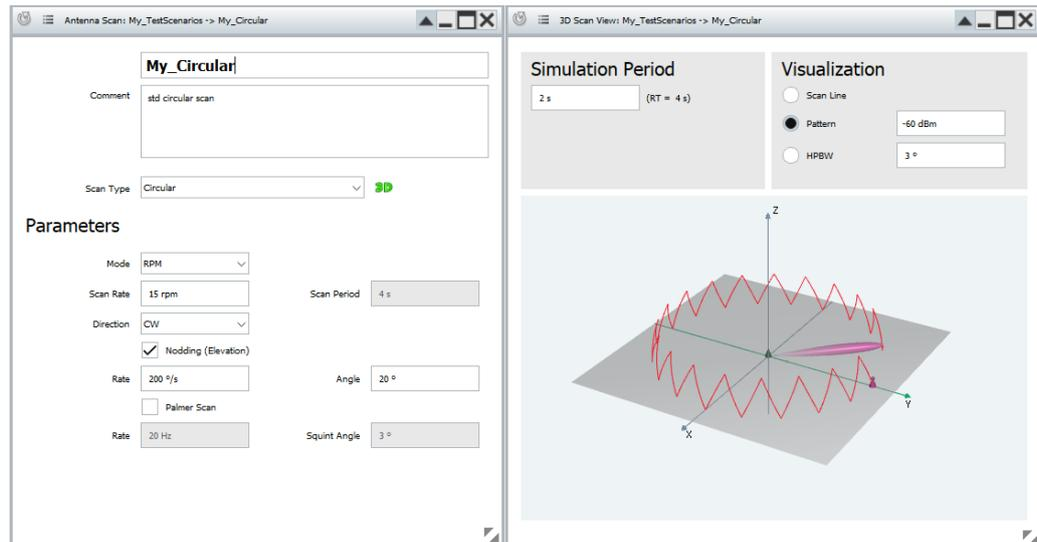

Figure 9-7: Circular scan with enabled nodding
- "Nodding (Elevation)" If enabled, superimposes a horizontal nodding on the circular scan. The height of the nods and their rise time are defined with the parameters "Angle" and "Rate", see Figure 9-7.
If enabled, superimposes a horizontal nodding on the circular scan. The height of the nods and their rise time are defined with the parameters "Elevation Angle" and "Elevation Rate", see Figure 9-7.